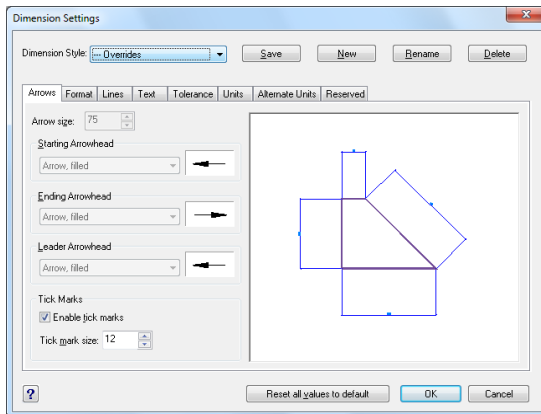

Fig. 51 – Dimensions Settings dialog box
- H** — **dimensions style**; double left-click on the name of the option to change; also available at the icon  **Dimension settings** (Fig. 51);